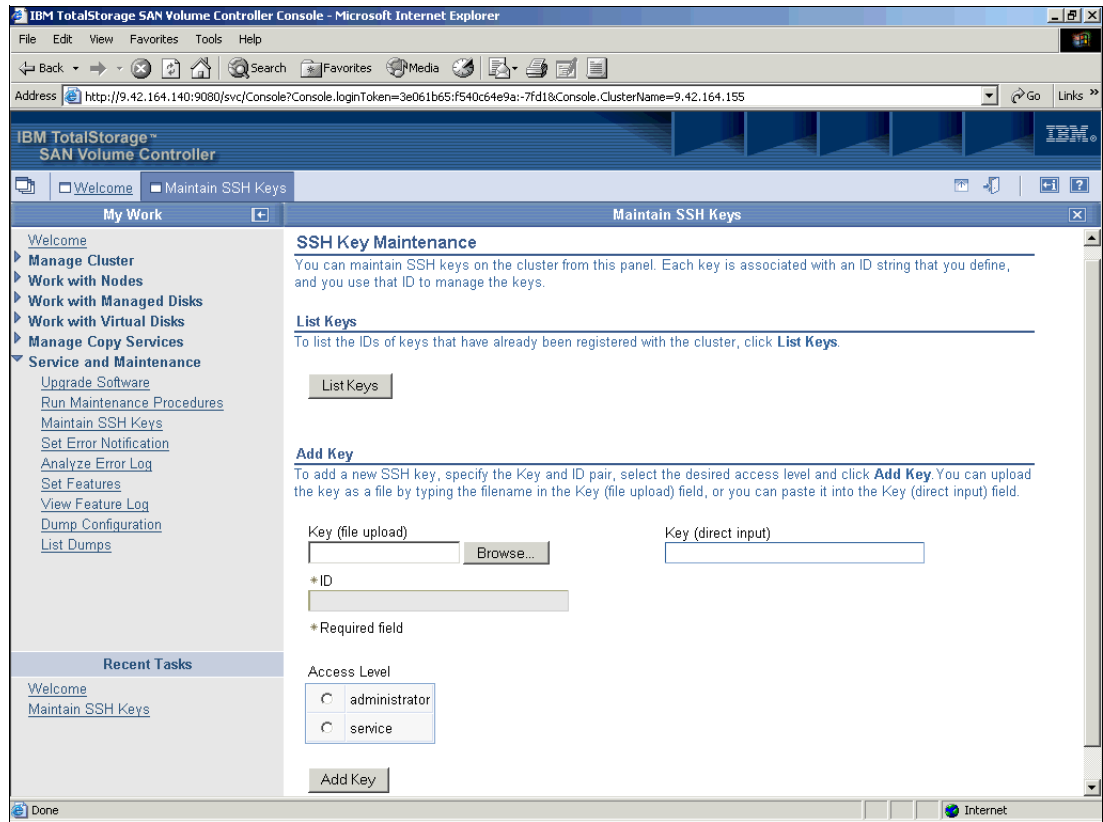

Figure 9-85 Maintain SSH Keys
2. As shown in the SSH Key Maintenance panel (Figure 9-85), you can either list keys or add a key. To list existing keys, click the **List Keys** button. To add additional keys, complete the appropriate fields and click **Add Key**.